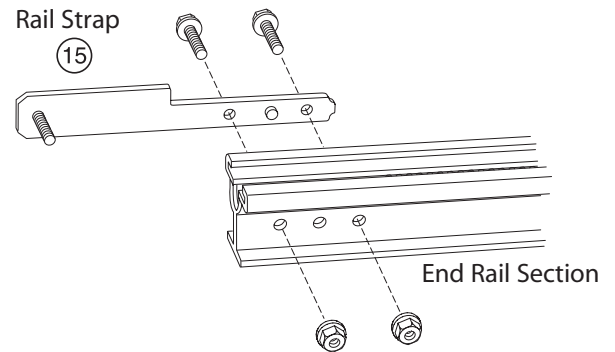

Figure 13 Attach Rail Strap
- A** Attach Rail Strap to End Rail Section with 2 (1/4"-20) Hex Head Bolts and 2 (1/4"-20) Serrated Flange Hex Nuts (**Figure 13**).